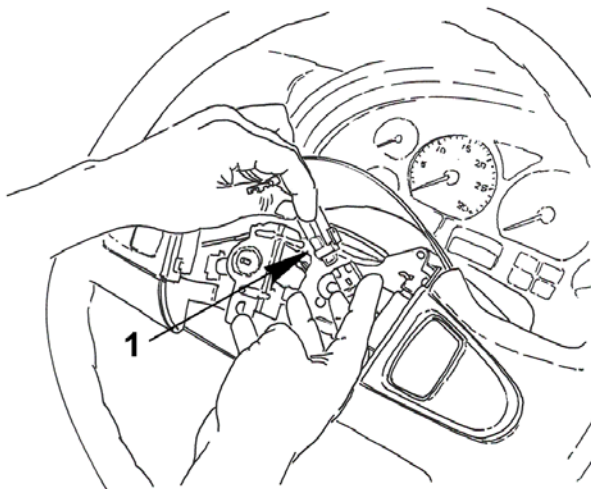

Figure 71 Steering Wheel Harness Disconnect
2. Disconnect the harness section (Figure 71, Item 1).